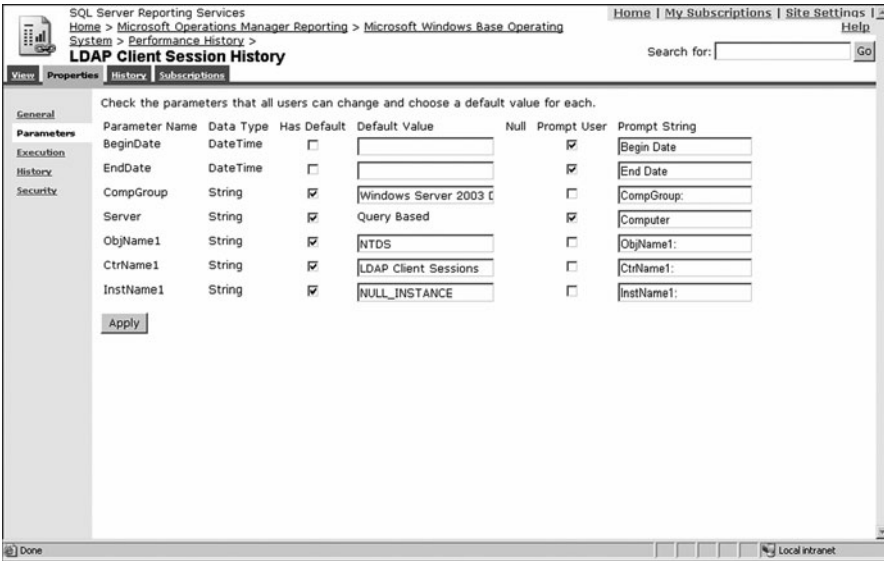

FIGURE 21.11 Linked report parameters.
10. Click the Apply button located at the bottom of the page to save the changes. The properties should look similar to the settings in Figure 21.11.